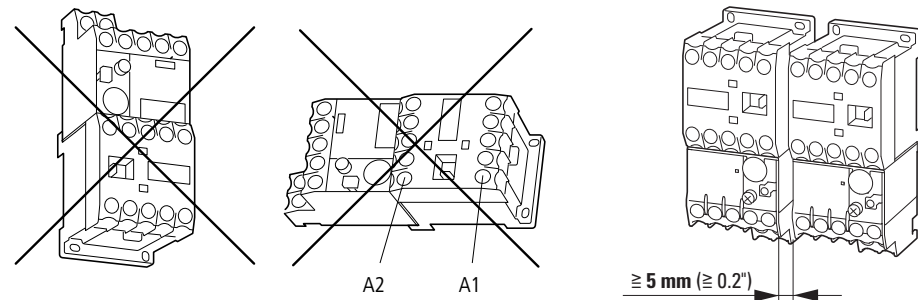

Figure 8: Impermissible mounting positions for DIL(E)EM/XTMC (A1, A2 coil connection)
- ▶ Both can be mounted in any position, apart from as shown in figure 8.